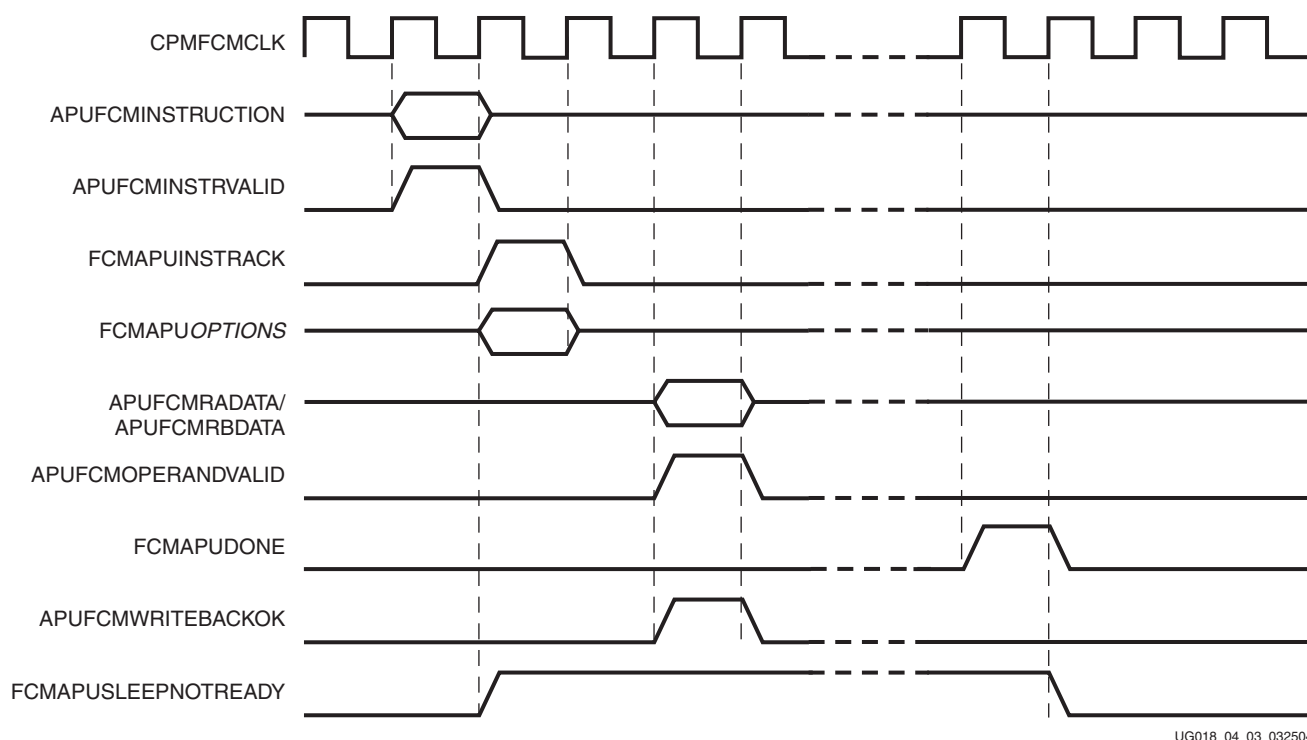

Figure 4-4: FCM Decoded Autonomous Transaction Example
In the example shown in Figure 4-4, the FCM responds in the next cycle by setting FCMAPUINSTRACK High and sending any of the FCMAPUOPTIONS that are used by this instruction. To respond in a later cycle, please see Figure 4-12 and Figure 4-13. Table 4-12 shows the FCM signals included in FCMAPUOPTIONAS,
In the example shown in Figure 4-4, APUFCMRADATA / APUFCMRBDATA, APUFCMOPERANDVALID, and APUFCMWRITEBACKOK are seen two cycles after the FCM acknowledges the instruction. This is the earliest cycle these signals can be sent to the FCM, but they can also arrive anytime afterward. For autonomous instructions, the signals APUFCMRADATA / APUFCMRBDATA, APUFCMOPERANDVALID, and APUFCMWRITEBACKOK will all arrive during the same cycle. Not shown in this example, APUFCMXERCA will be valid the same cycle as APUFCMOPERANDVALID. This signal indicates the carry in for any extended arithmetic.
**Note:** Actual timing results may vary from those shown in Figure 4-4. For example, the operands could come later than shown.